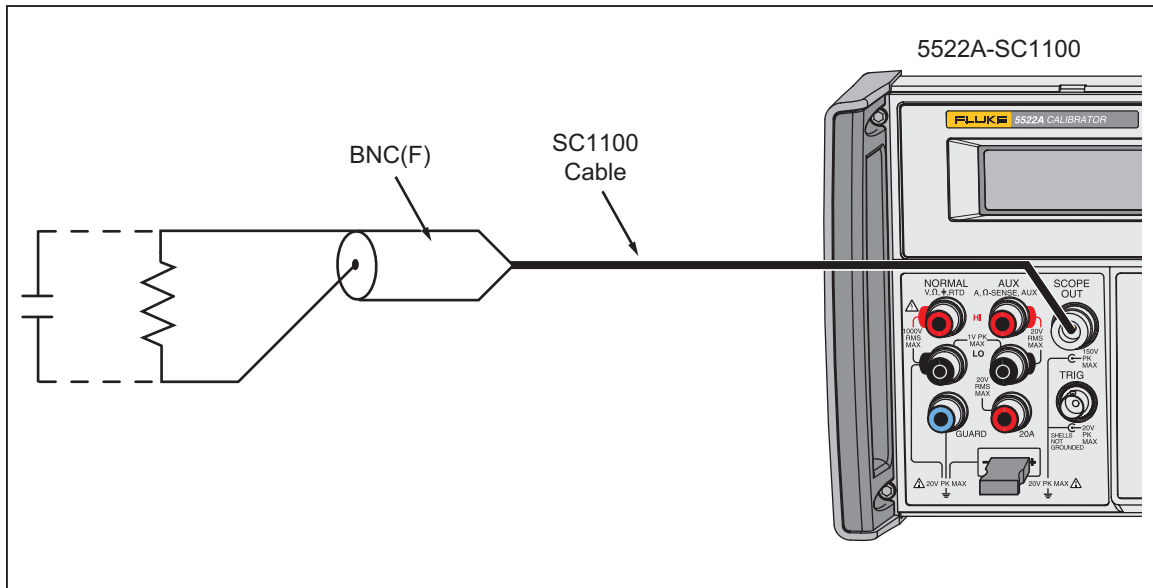

Figure 7-6. MeasZ Calibration Connections
1. Connect the equipment as shown in Figure 7-6.